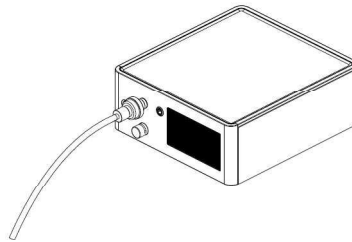

Figure 4-8 The insufflator pipe fitting connects with the insufflator (using filter)
3. Connect the installed pipe fitting to the CO₂ gas injection joint of the product. Guarantee that the interface is well inserted. As shown in Figure 4-8.